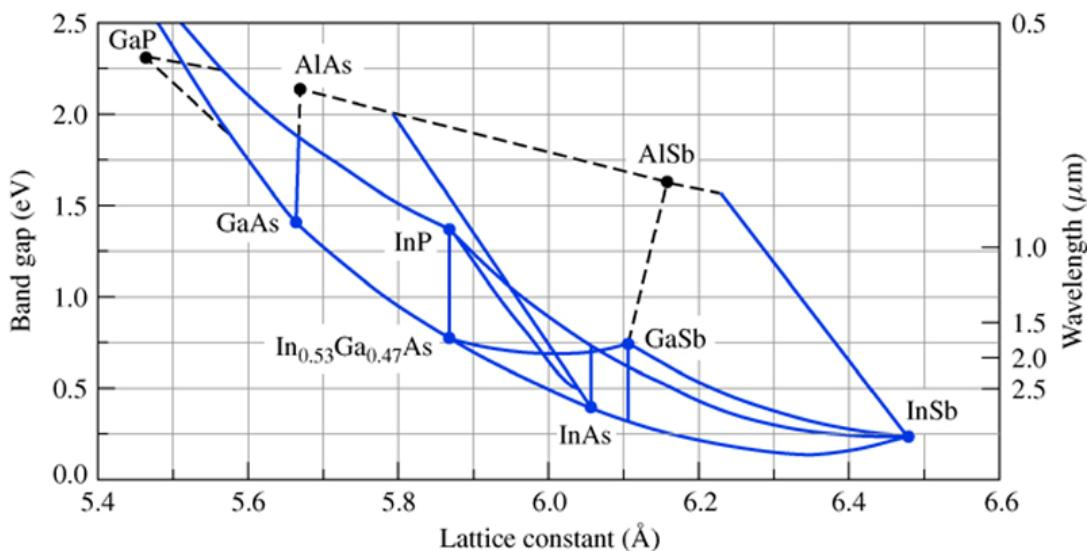

Figure 2: Correlation between bandgap energy and lattice constant of semiconductor materials
- [b] Figure 2 shows a correlation between bandgap energy and lattice constant of semiconductor materials. Suggest semiconductor materials that can be used to emit light with energy of 1.5 eV. Of the materials you suggested state which would be suitable to be grown on substrates (e.g. Si, GaAs or InP)?